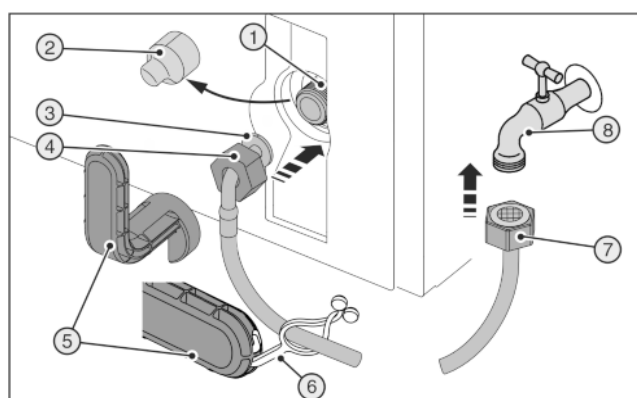
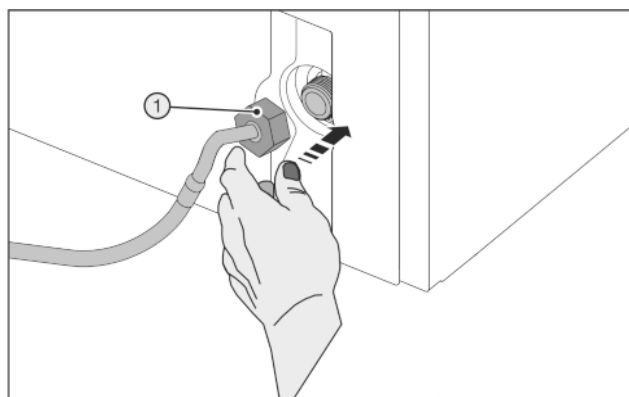

Fig. 45
Fig. 46
Broken auxiliary tool Fig. 45 (5).
- Only use an auxiliary tool Fig. 45 (5) at room temperature.
- Remove the cover Fig. 45 (2).
- Easy to fit: Place the straight end of the hose Fig. 45 (7) to the left on the floor.
- Slide the nut Fig. 45 (4) over the angled end of the hose Fig. 45 (3) up to the end and secure.
- Position the nut Fig. 46 (1) carefully and screw it directly onto the thread with two fingers until it is seated securely.
- Tighten the nut Fig. 46 (1) clockwise with the auxiliary tool Fig. 45 (5) until maximum torque is reached and the auxiliary tool Fig. 45 (5) overtightens.
- Screw the nut Fig. 45 (7) onto the stopcock Fig. 45 (8).
- Tighten the nut Fig. 45 (7) clockwise with the auxiliary tool Fig. 45 (5) until maximum torque is reached and the auxiliary tool Fig. 45 (5) overtightens.
- Turn the water supply stopcock Fig. 45 (8) on and check the whole water system for leaks.
- Hook the clip Fig. 45 (6) into the auxiliary tool Fig. 45 (5) and fix it to the stainless steel pipe to store it.